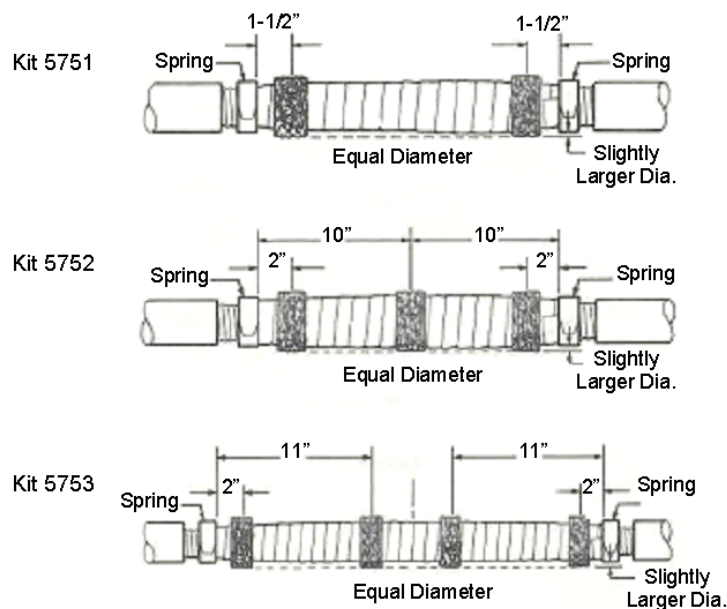

Figure 8
2. Wrap on 3M™ Spacer Web to form collars around splice at locations shown: Build all of them to an equal diameter slightly greater than the diameter of the springs previously wrapped with Scotch® Super 33+™ Tape. Wrap collars to desired diameter plus 1/4 wrap. Cut off excess. DO NOT STRETCH WHEN APPLYING. (Figure 8)